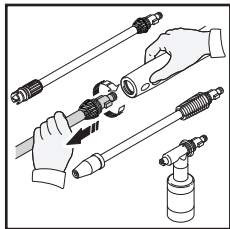
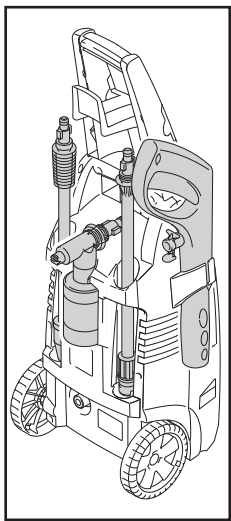

Fig. 24
Fig. 25
- Remove lance or detergent bottle from the gun and place in the accessory holder (Fig. 24). Place the gun in the accessory holder on the side of the power washer. Slide lances into the slots provided on the back of the power washer. Make sure to discard any remaining detergent from the bottle. Flush the bottle and nozzle head with fresh water to prevent clogging. Press the detergent bottle into the space between the lance holders (Fig. 25)